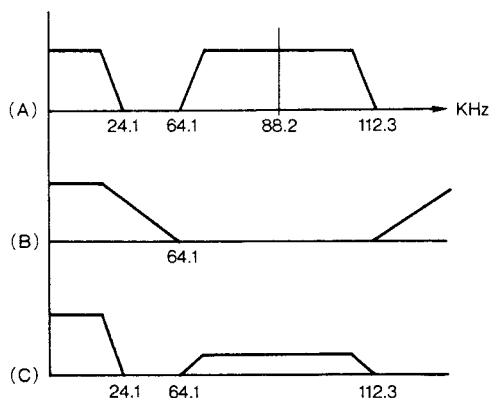

Fig. 6-1-2
SM5804B is provided with a filter. In regard to filter ring response, more than 90 dB attenuation is performed with 24.1kHz at the 1st DF by X2 over sampling as shown in (A). However, sampling noise remains in a ± 24.1 kHz range centered at 88.2kHz as shown in Fig. 6-1-2.